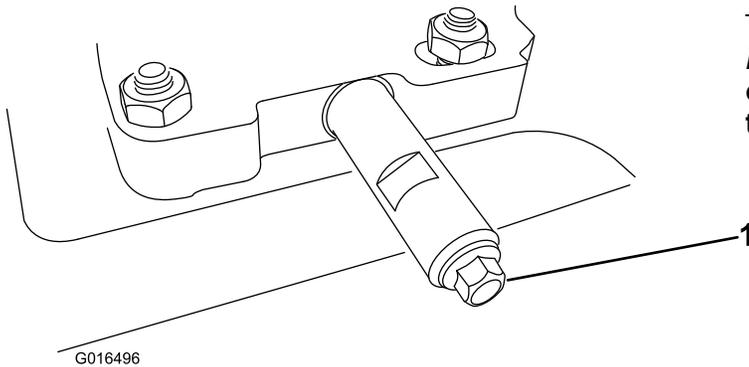

Figure 33
1. Clean the area around the oil-drain cap (Figure 33).